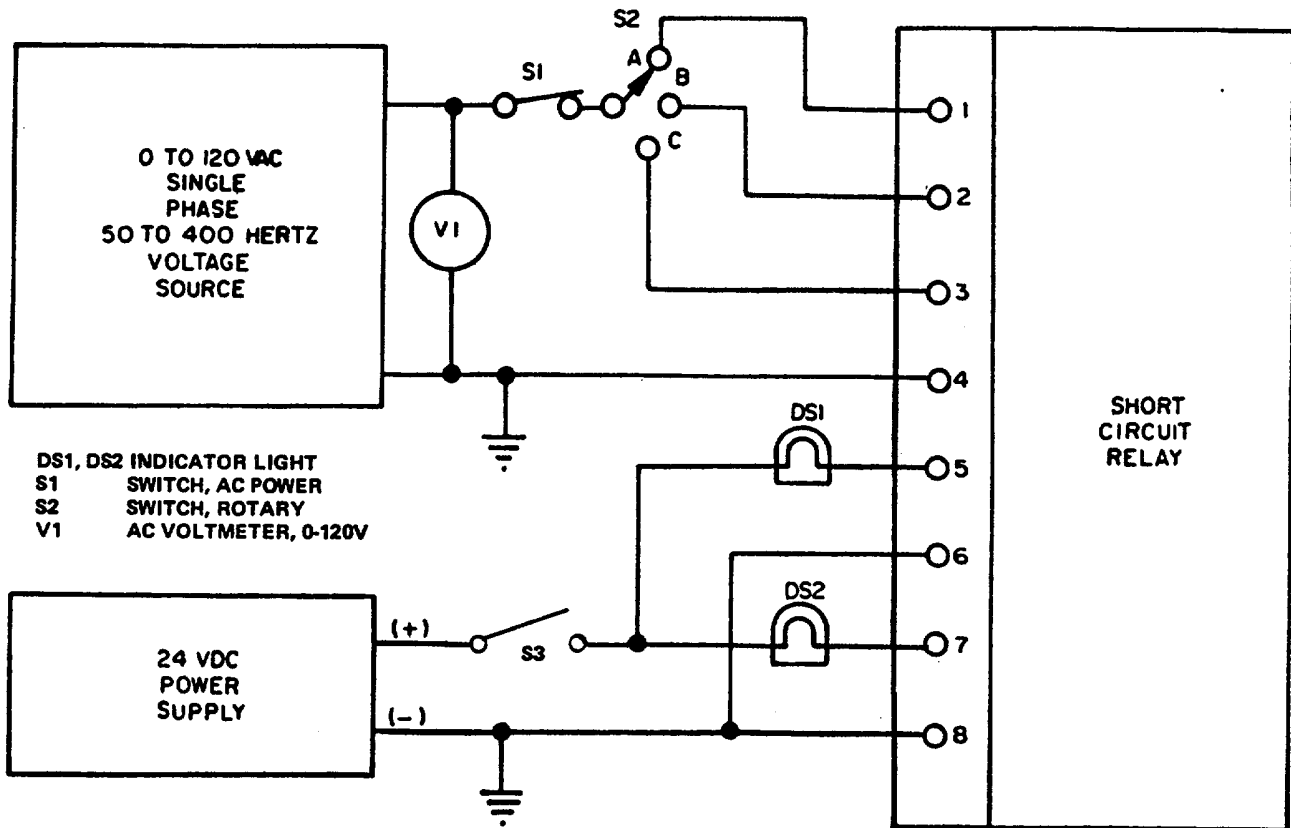

Figure 5-12. Short Circuit Relay K113, Test Setup
- (1) Test.
- (a) Connect the relay in the test setup shown in figure 5-12.